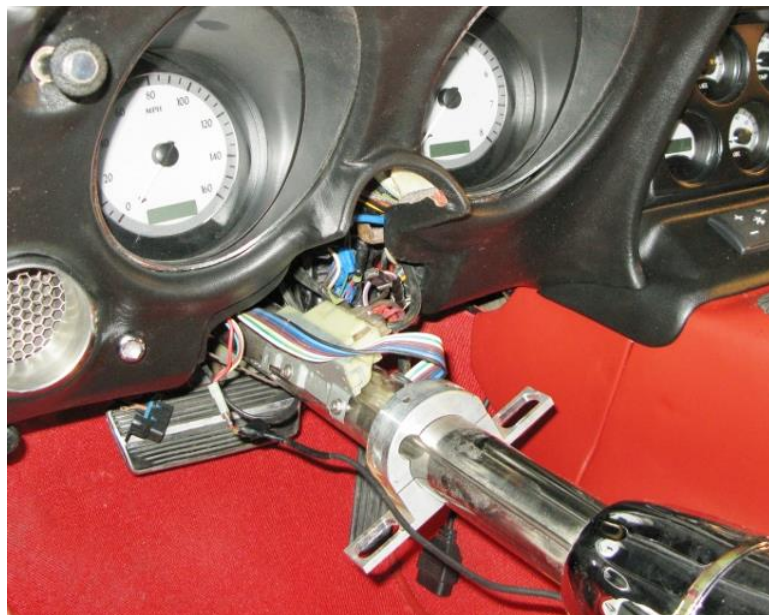

Figure 12 – Remove Steering Column
22. Remove the electrical (ignition switch) switch connection from the lower part of the steering column. There are two halves to this connector however they will come out as one. Pull the steering column out of the car. You may need to continue to pry between the coupler and the column and wiggle the column loose. **NOTE:** With an aftermarket column you can pull the steering column out of the coupler while resting the steering wheel on the front seat (Figure 12). By not completely removing the column from the vehicle, you can leave the electrical switch connected to the column.